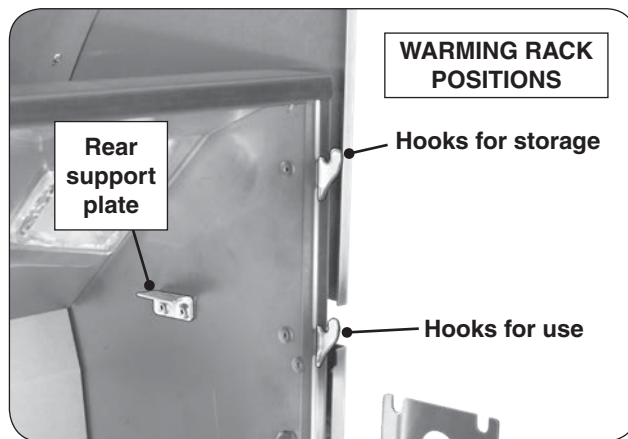

Fig. 22-1 Warming rack hooks
1. Locate the warming rack hooks and rear supports found on the upper portion of the grill oven (see Fig. 22-1).
Use the top hooks for storage (see Fig. 22-1 and Fig. 22-3).